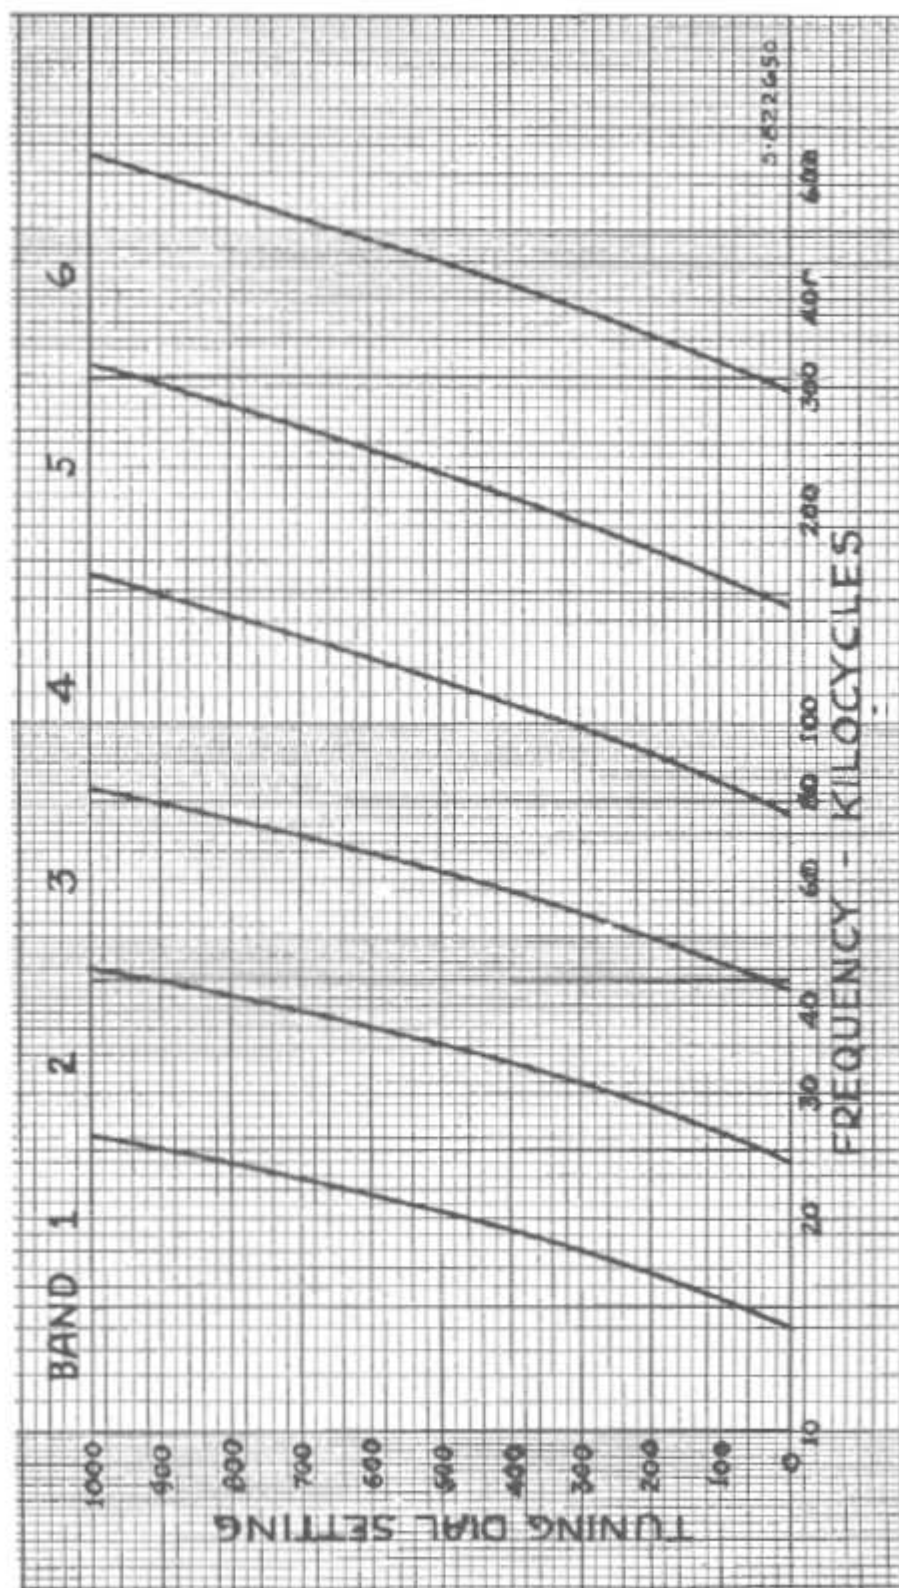

Figure 12—Average Frequency Calibration Curves
11.4-1 Figure 12 shows average frequency calibration curves and band coverage of this equipment. Table No. 2 shows the nominal frequency range of each band.